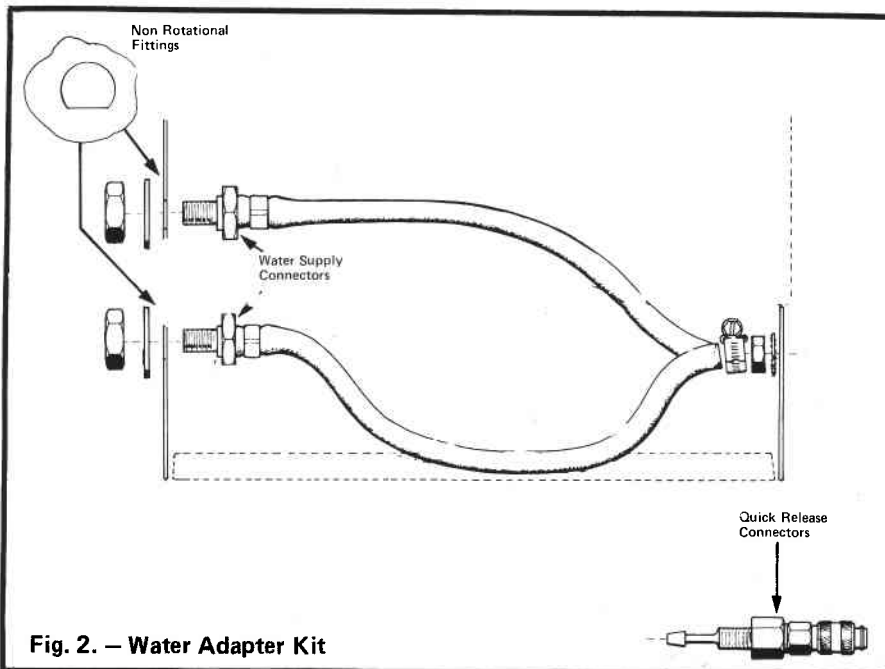

Fig. 2. — Water Adapter Kit
8. Push the inching button — See Fig. 2. and check that the wire is driven smoothly through the outlet guide.